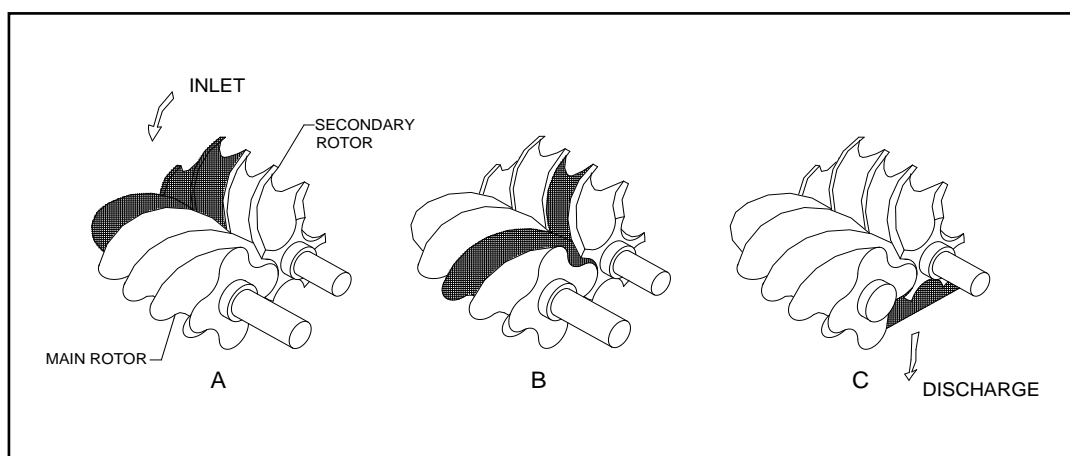

Figure 3-2
In operation, as depicted below in the compression cycle (Ref. Figure 3-2), air enters the compressor through the inlet port becomes trapped between the helical lobes of the main rotor and the matching grooves of the secondary rotor (A). As the rotors turn air is trapped in the cavity created by the meshing lobe and groove and reduced in volume or “compressed”. It is then pushed through the successive cavities (B) until it reaches the discharge end of the compressor (C) and is sent to the oil separator.